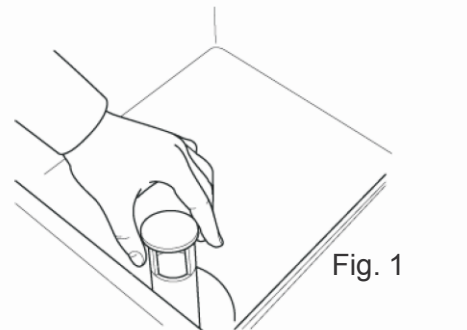

Fig. 1
- 2- Open the dishwasher door and verify that all internal components, filters, wash arms and drain tube, are in their correct positions. (Fig.1)